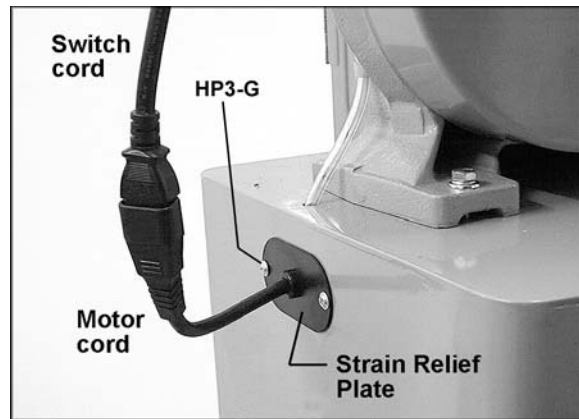

Figure 16
5. Push motor cord and strain relief plate through the opening to the outside of the stand, as shown in Figure 16. Fasten the strain relief plate to the stand with two *M5x12 pan head screws (HP3-G)*.
6. Connect the plugs of the switch cord and motor cord (Figure 16). **Do not connect machine to power source during assembly.**